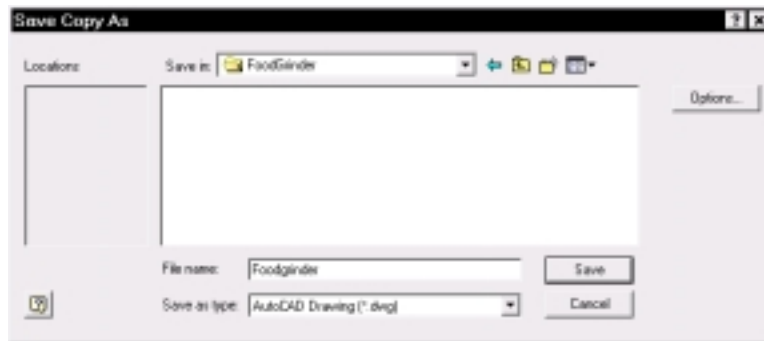

Figure 1–12
5. In the DWG File Export Options dialog box, select file version, set options, and select the Next button. (See Figure 1–13.)